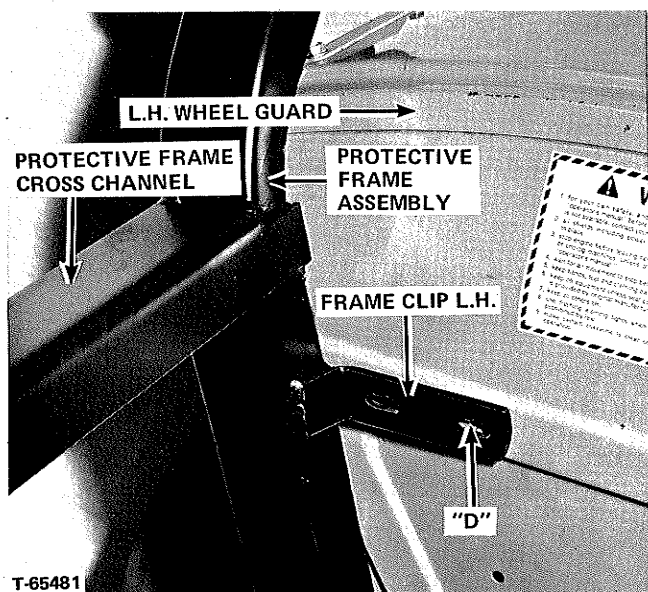

FIGURE 5
7. Refer to Figures 5, 6 & 7 and fasten the frame clip L.H. to the L.H. wheel guard as follows:
- a. Center punch and drill a .406" hole "D" in the wheel guard at the center lines of the forward slot in clip. Figure 5.